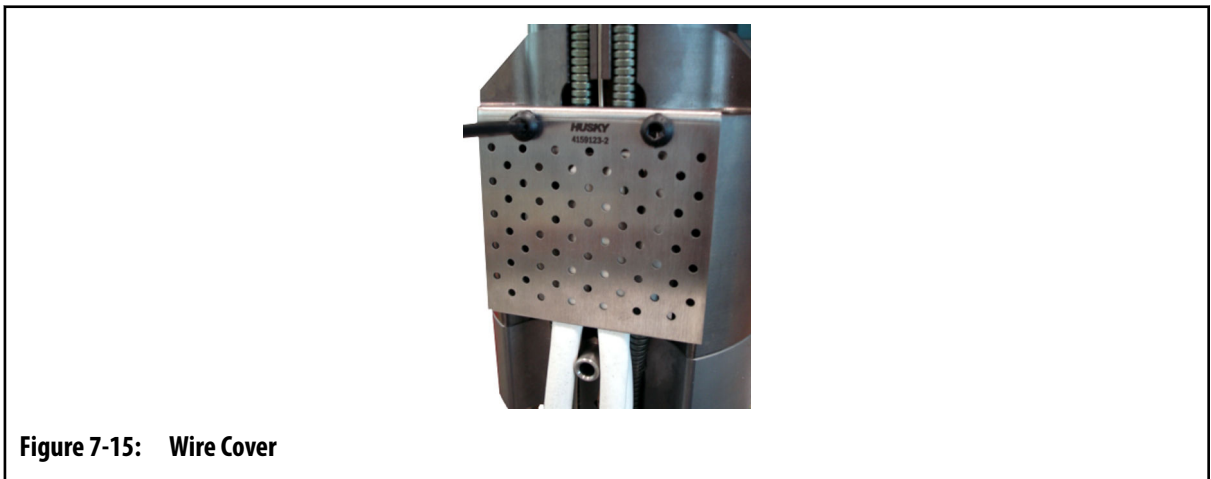

Figure 7-15: Wire Cover
- 18. Install the wire cover. Refer to Figure 7-15.